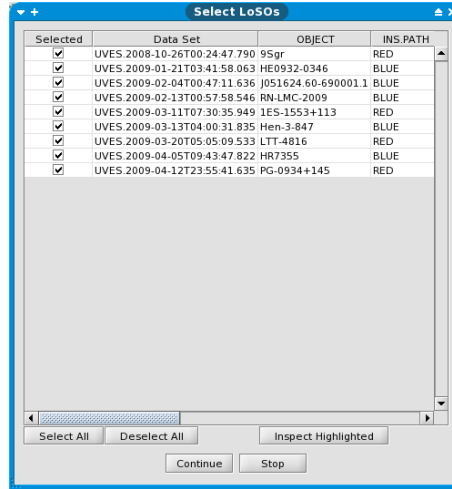

Figure 3: The “Select LOSOs” pop-up window.
7. The `Data Set Chooser` actor will be highlighted next and will display a “Select LOSOs” window (see Figure 3) that lists the set of LoSOs along with the values of a selection of useful header keywords including the object name, UVES arm, detector binning and readout speed, instrument grating, and slit width. The first column consists of a set of tick boxes which allow the user to select the LoSOs to be processed, and by default all LoSOs are selected.